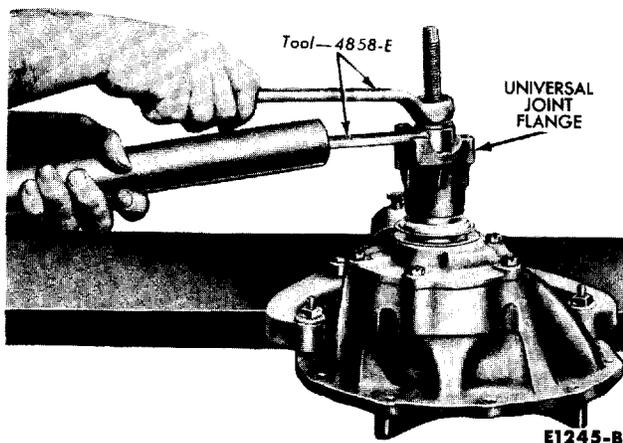

FIG. 30—U-Joint Flange Installation
8. Install the U-joint flange (Fig. 30).